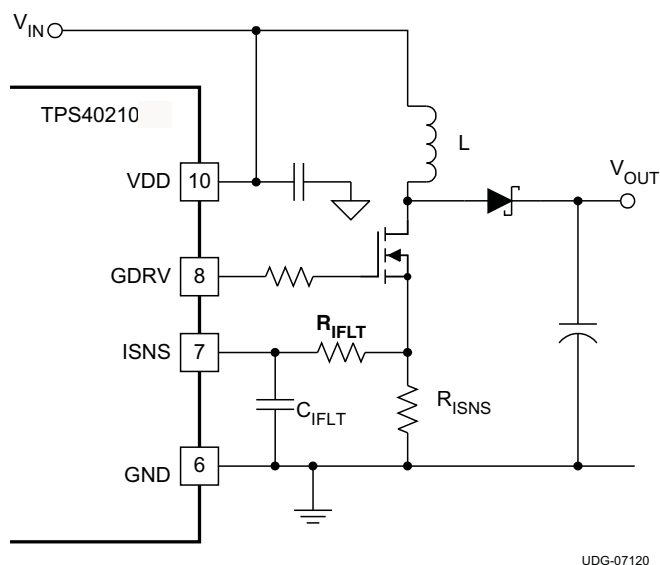

Figure 24. Current Sense Components
- $V_D$  is the drop across the diode in Figure 24
It is possible to increase the voltage compensation ramp slope by connecting the VDD pin to the output voltage of the converter instead of the input voltage as shown in Figure 24. This can help in situations where the converter design calls for a large ripple current value in relation to the desired output current limit setting.
In most cases, a small filter placed on the ISNS pin improves performance of the converter. These are the components  $R_{IFLT}$  and  $C_{IFLT}$  in Figure 24. The time constant of this filter should be approximately 10% of the nominal pulse width of the converter. The pulse width can be found using Equation 11.